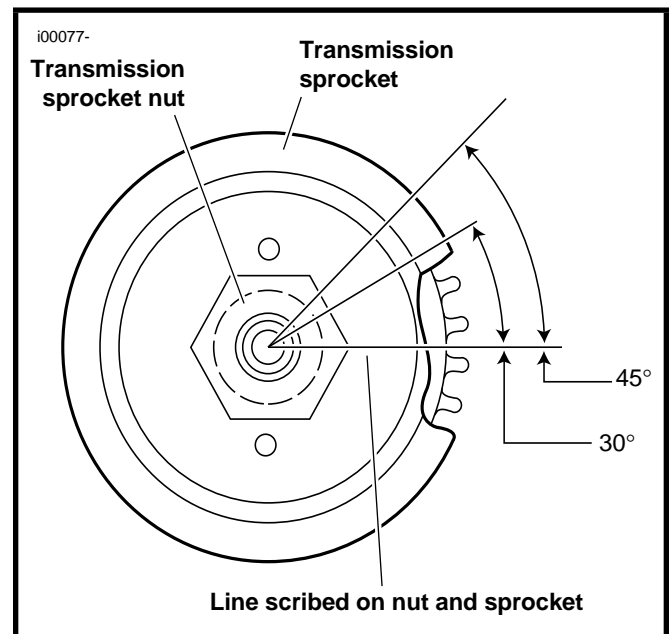

Figure 6-46. Aligning Transmission Sprocket
- b. See Figure 6-46. Scribe a line on the transmission sprocket nut and continue the line on the transmission sprocket as shown.
- e. See Figure 6-46. If lockplate will not align with holes, tighten nut to 45° maximum.